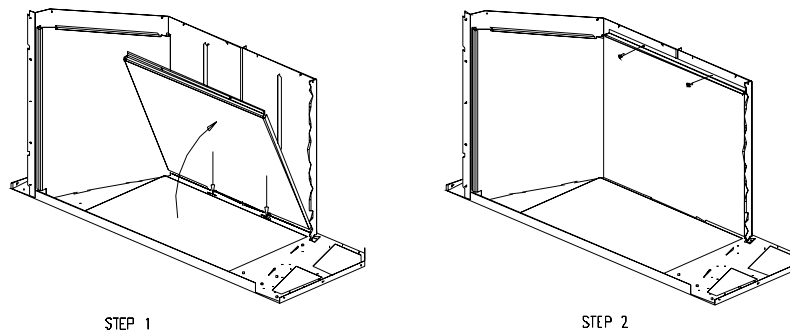

Figure 5.2 Installation of Rear Porcelain Panel
3. Remove the two 1/4 " hex head screws from the top rear of the combustion chamber. Position the rear panel into the combustion chamber with the tabs at the bottom locating into the slots at the bottom back of the combustion chamber. Pivot the panel towards the rear of the unit ensuring that the panel is flush against the rear of the combustion chamber. The rear panel has been designed to fix the side panels in place at the back of the combustion chamber. Secure the rear panel to the back with the two screws previously removed (see Figure 5.2).